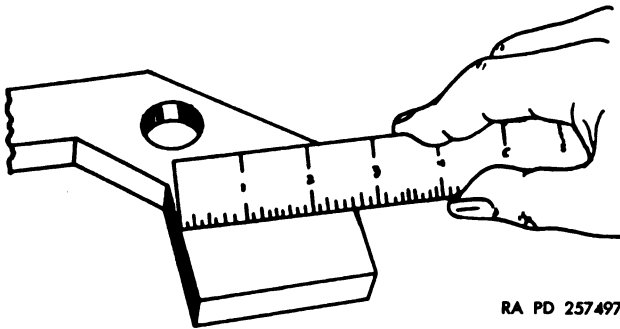

Figure 27. Using a shrink rule.
- (5) *Shrink rule.* A shrink rule is used to check a dimension on a pattern, as shown in figure 27, and at the same time to automatically compensate for the amount of shrinkage of the metal after casting or molding, as discussed in paragraph 26b.